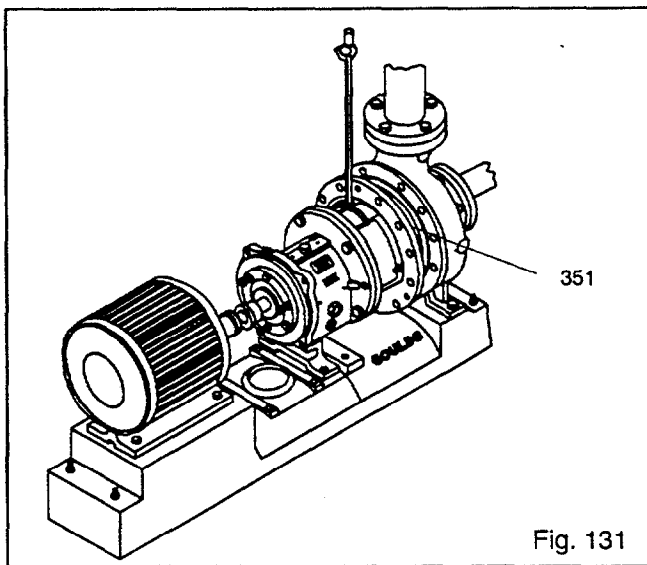

Fig. 131
3. Install back pull-out assembly in casing (Fig. 131).